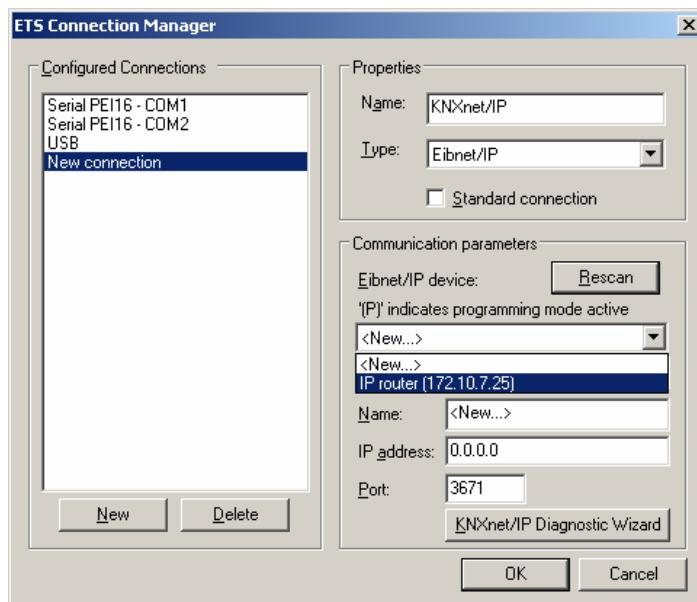

Fig. 7: List of devices in communication parameters with all IP routers found
4. The "Eibnet/IP Device" list contains all IP routers found in the IP network (cf. Fig. 7). The name assigned in the ETS (default is "IP router") and the IP address of the IP router are indicated. The letter (P) behind these data signals that a programming mode is activated. By this means, it is possible to identify individual devices even in systems with several routers. The IP router which is to work in the configured connection as a "data interface" must be selected in the device list.